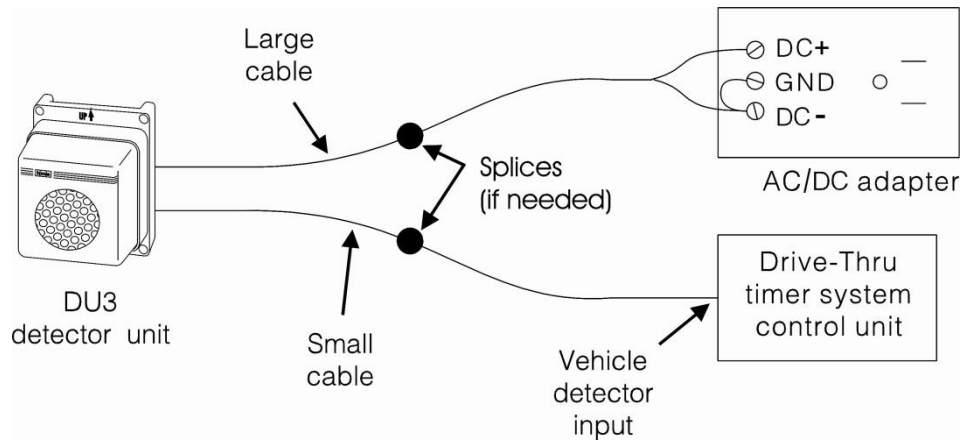

Figure. 5 DU3 cable routing and connections
- Route the larger cable coming through the wall from the DU3 to the AC/DC power adapter. Connect the wires of this cable to the two outer screws on the bottom of the AC/DC adapter, then connect a short 16AWG jumper cable/bridging jumper between “GND” and “DC-“ terminal, as shown in Figure 5. **NOTE:** If the larger cable from the detector unit is not long enough, up to 188 ft (57 meters) of additional two-conductor (16 AWG) cable (or equivalent) can be spliced to it. Cover splices with electrical tape or shrink tubing.